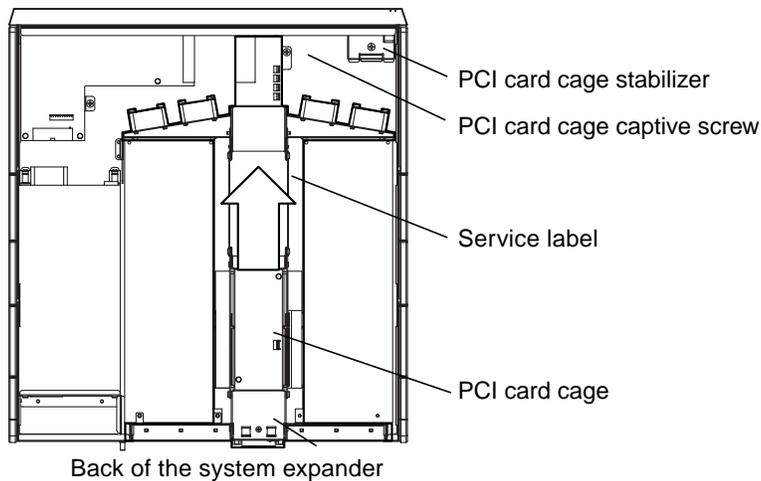

FIGURE 2-3 Removing the PCI Card Cage
8. Loosen the one PCI card cage captive screw shown in FIGURE 2-3.